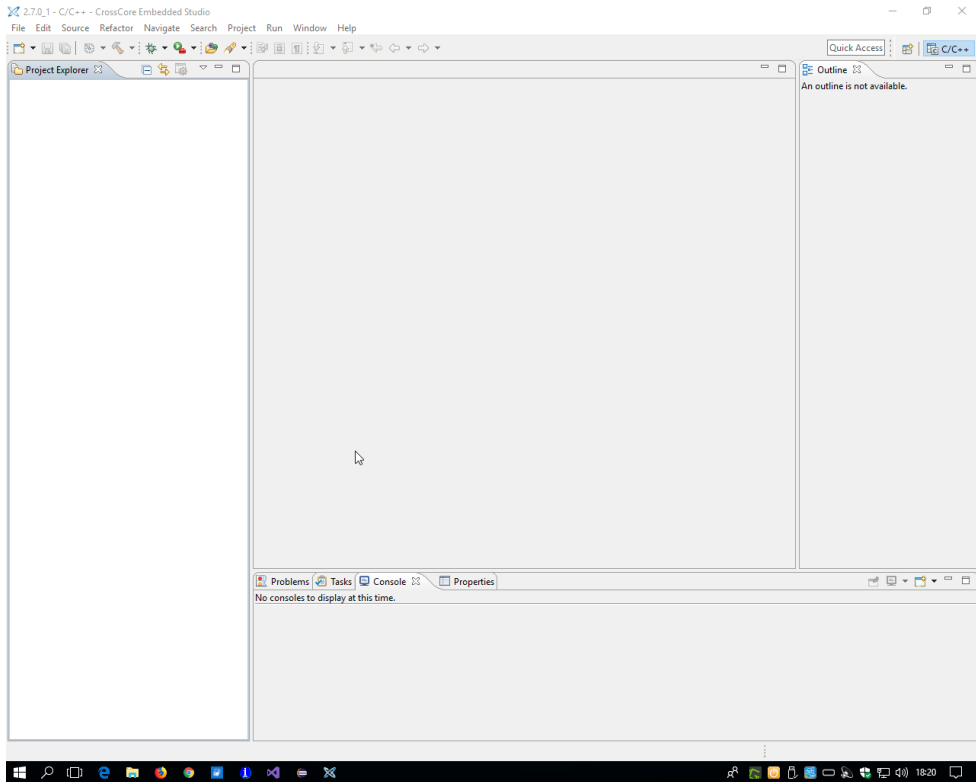

Figure 6 CrossCore Embedded Studio
3. Start the Crosscore Embedded Studio (Figure 6)